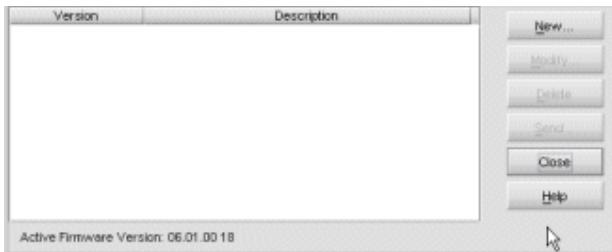

Figure 56 Firmware Library dialog box
3. Select **Firmware Library** from the Maintenance menu. The Firmware Library dialog box is displayed (Figure 56).
4. Select **Maintenance > Firmware Library**. The Switch Firmware Library dialog box is displayed (Figure 56).